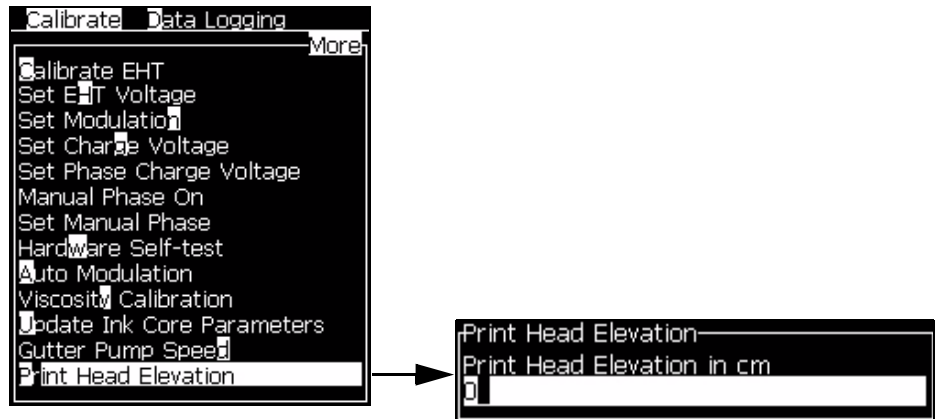

Figure 4-21: Printhead Elevation
- Access *Calibrate > Printhead Elevation*. The *Printhead Elevation* dialog box appears (see Figure 4-21 on page 4-17). Make sure that the conduit length is set correctly for the current configuration (see Table 4-2).